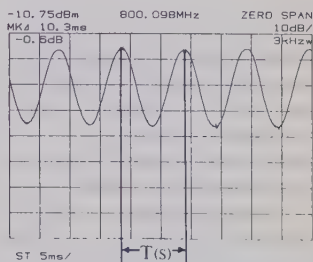

Fig. 3-13 Determination of demodulated wave time interval $T(s)$
Step 12 Adjust the Δ marker (see Figure 3-13.)
- Step 7 Adjust the Δ marker to the adjacent sideband peak. (See Figure 3-13.)